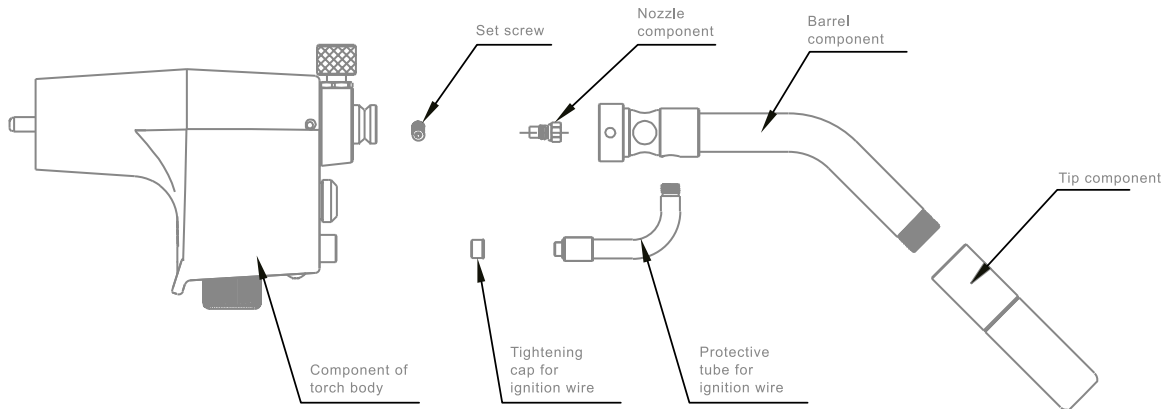

Figure 7: Accessories exchange
3. In the case of replacing the high-voltage ignition wire, refer to Figure 7.